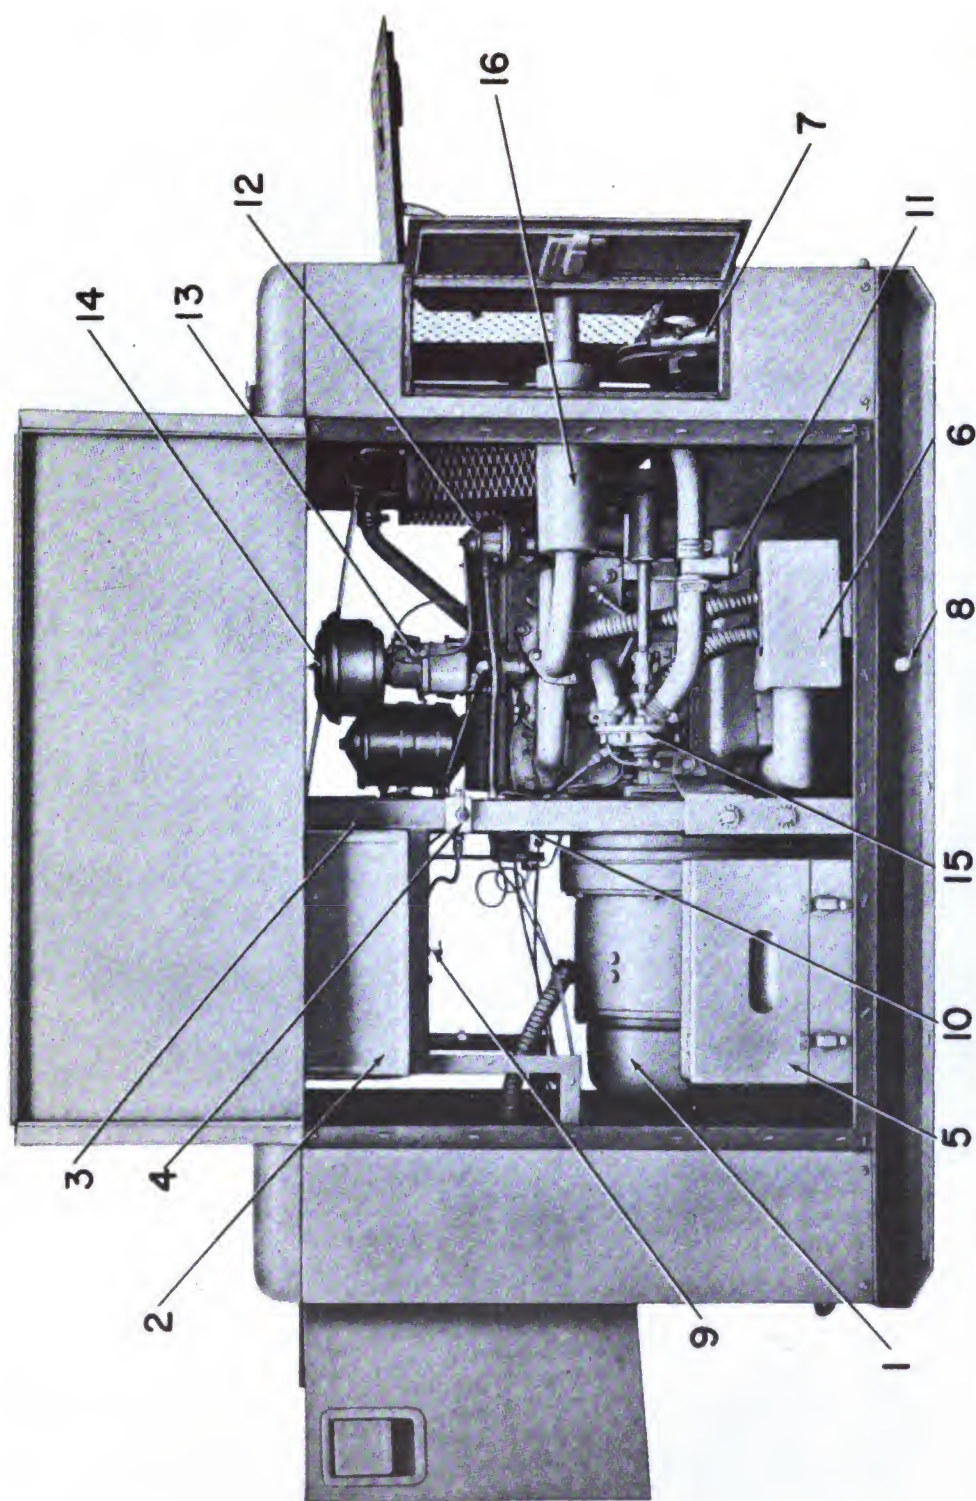

Figure 2-Left Side View-Open
c. Place the torch in its bracket (see Fig. 2) with the nozzle extending into the heater tube as far as possible.
Throw main circuit breaker to OFF and allow engine to run without load for about 1/2 minute. Pull throttle all the way out, then push up the STOP button located under the magneto (see Fig. 2).